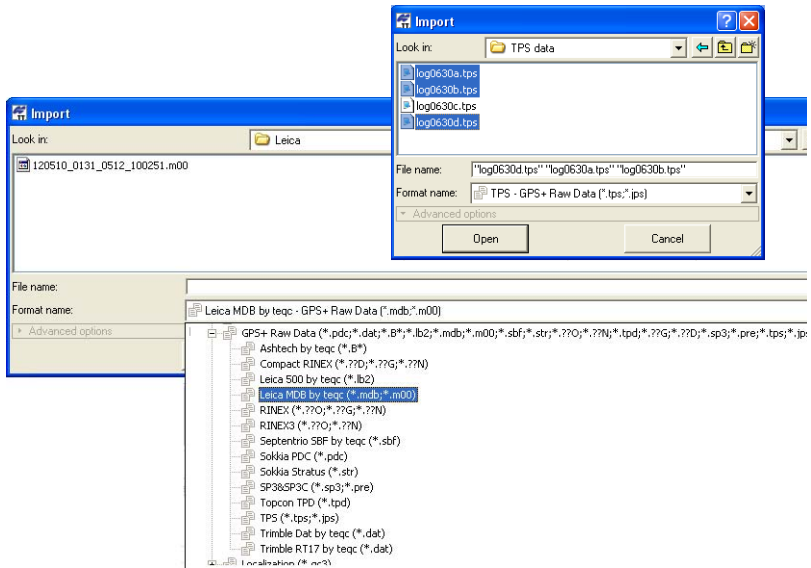

Figure 3-18. Import GPS Raw Data File
- TPS/JPS files are the raw data files logged by Topcon receivers (Figure 3-18 on page 3-25).